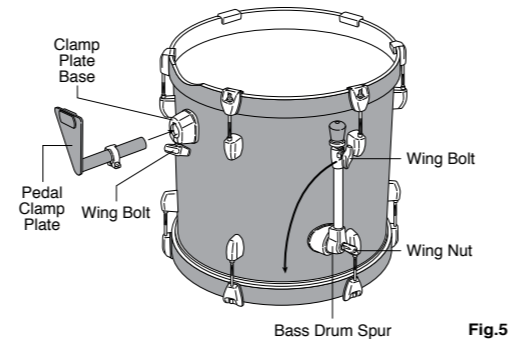
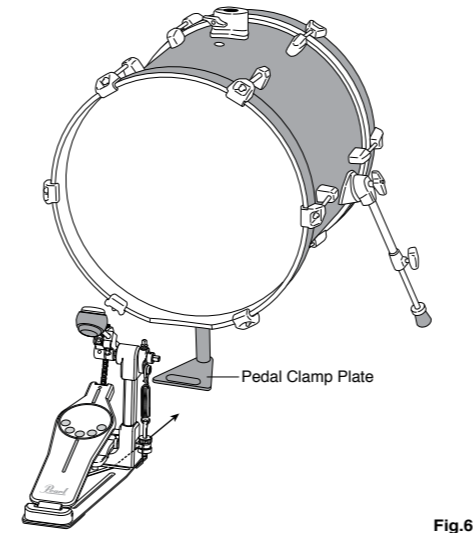

Fig.5
Fig.6
4. Insert the Pedal Clamp Plate into the Clamp Plate Base as shown and tighten the Wing Bolt to secure. Loosen the Wing Nut on the Bass Drum Spur and rotate it to the position shown in Fig.6. Tighten the Wing Bolt to secure. Loosen the Wing Bolt and extend the Spurs making sure that both sides are equal in length, and tighten the Wing Bolt to secure. The Bass Drum Spurs have Spike Tips (for added slip resistance) that can be exposed by turning the Lock Nut and Rubber Tip clockwise (Fig.5).
Position the Bass Drum upright as shown and attach your Bass Drum Pedal to the Pedal Clamp Plate. Adjust the height of the Pedal Clamp Plate and the length of the Spurs if necessary. When making the adjustment, hold the Bass Drum with one hand to prevent the drum from falling over. When the height is set, make sure to tighten the Wing Bolts on the Clamp Plate Base and the Spurs, and the Stop Lock on the Pedal Clamp Plate (Fig.6).